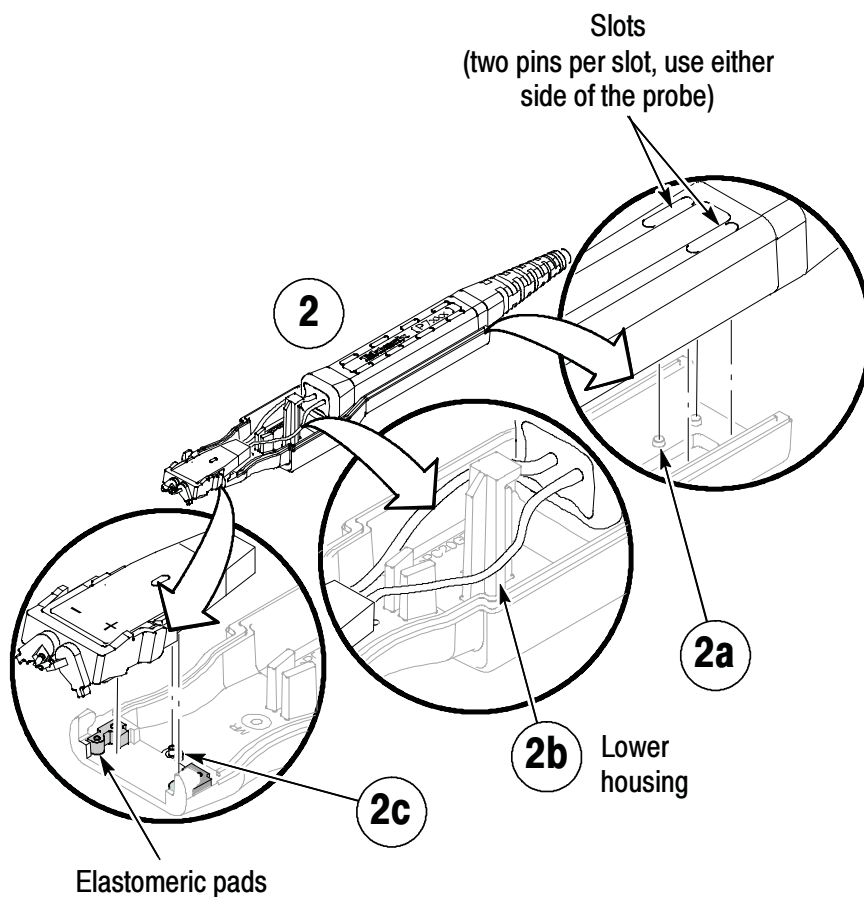
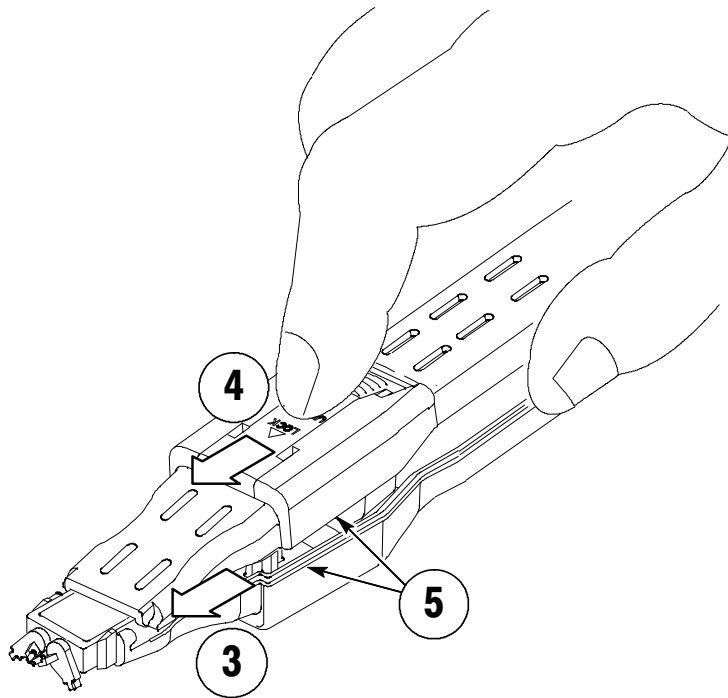

Figure 15: Assembling the handheld adapter
Figure 16: Lock the handheld adapter
2. Separate the Handheld Adapter housings, if necessary (see Figure 16 on page 22 for latch location), and place the probe in the lower housing. See Figure 15.
5. Slide the latch forward on the upper housing to lock the housings in place. See Figure 16.
NOTE. When the Handheld Adapter is properly assembled, the elastomeric pads seated in the nose of the Handheld Adapter (see Figure 15) provide a balanced cushioning for the probe tip, unless too much pressure is applied to the probe tip. This balanced cushioning of the probe tip helps make the connections to the two interconnect points of a differential measurement easier.